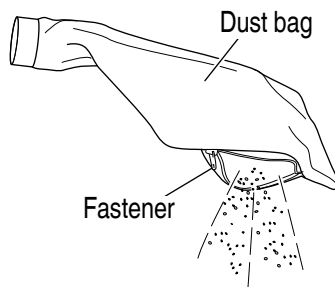

Fig. 17
1. Emptying and cleaning the dust bag (**Fig. 17**)